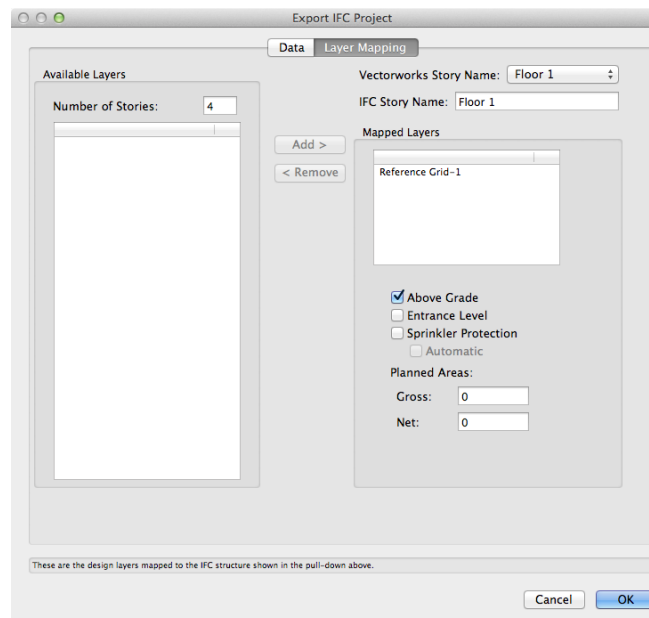

Figure 18 – IFC Project Export window – Layer Mapping tab.
2. Click the “Layer Mapping” tab to specify which layers to export, and the Story Name to assign to them at export (Figure 18). If a site model is set to a “site layer” and has